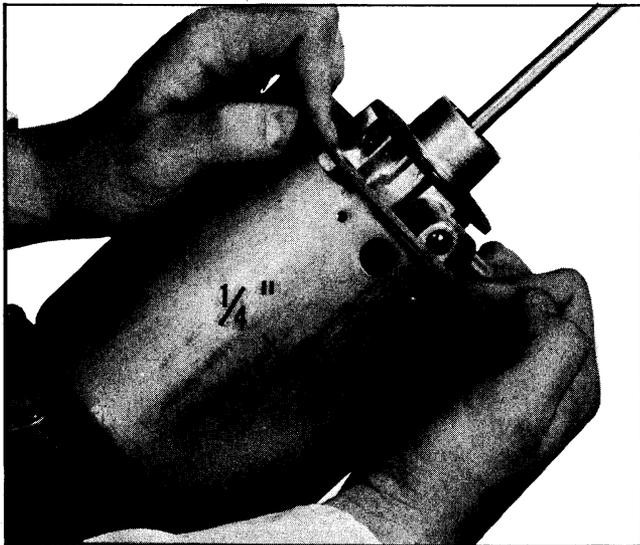

Fig. 7-37 Vacuum Piston Alignment
5. Position vacuum piston assembly on top of coil spring. (See Fig. 7-37)